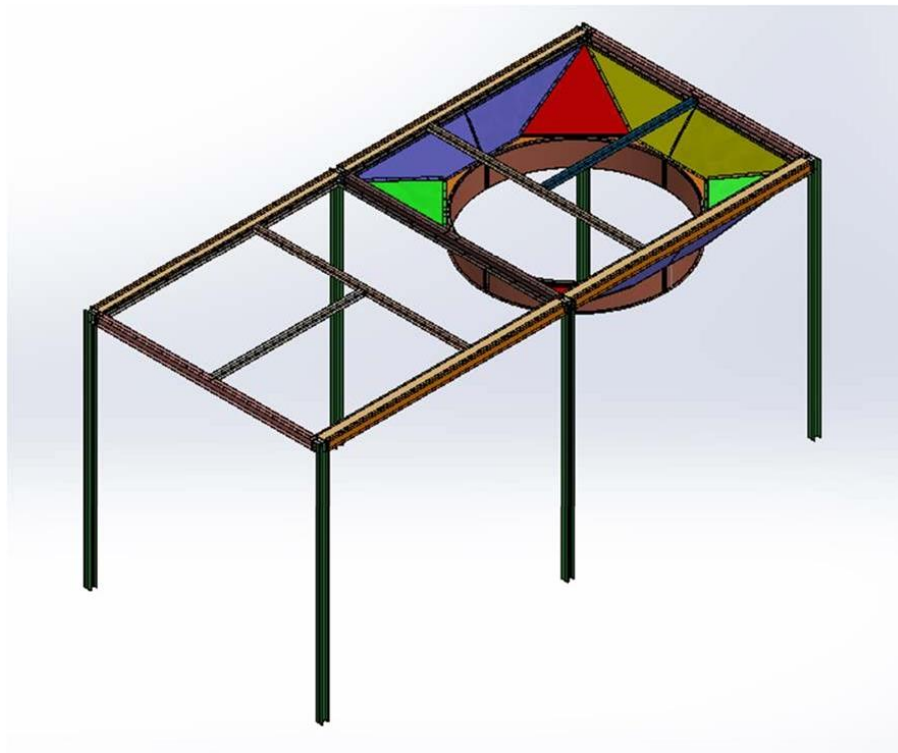

Figure 3-4
- 2- Assembly Operation of the Plenums and Structures (Figure 3-4)